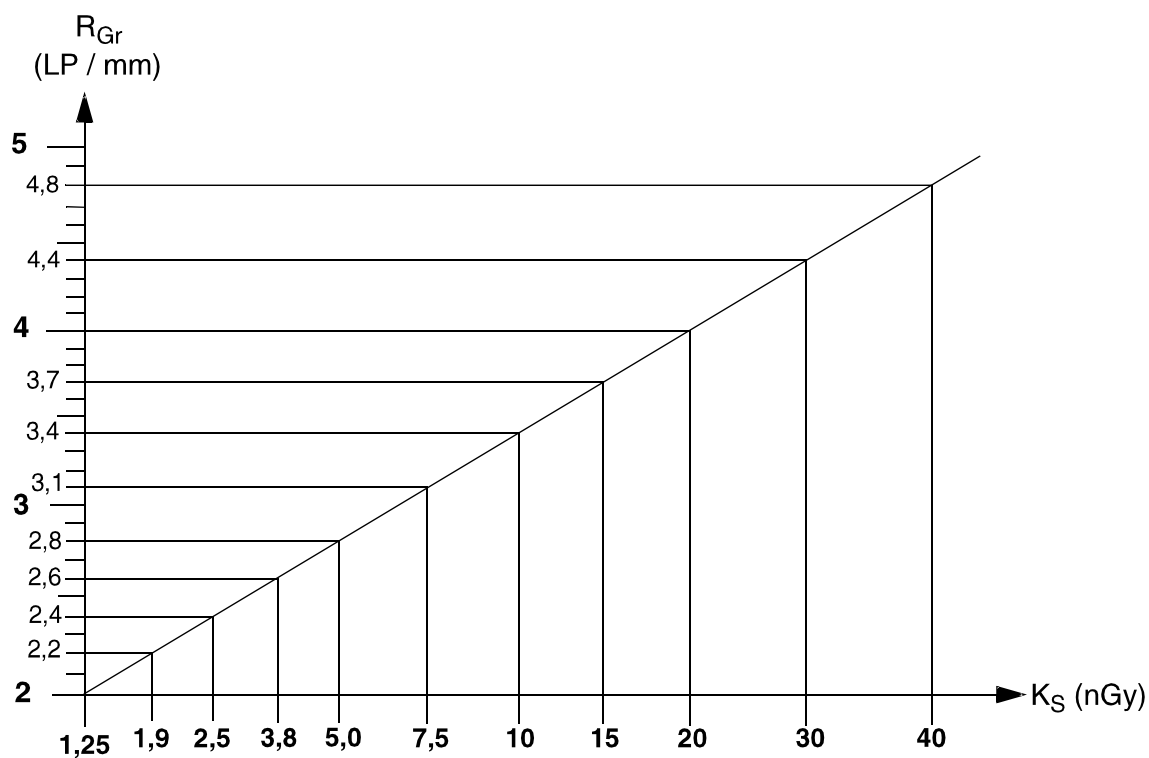

Fig. 6 Minimum resolution - dose requirement
- Take the relevant minimum resolution R_{Gr} from the diagram (Fig. 6) for the film/screen combination used and record it.